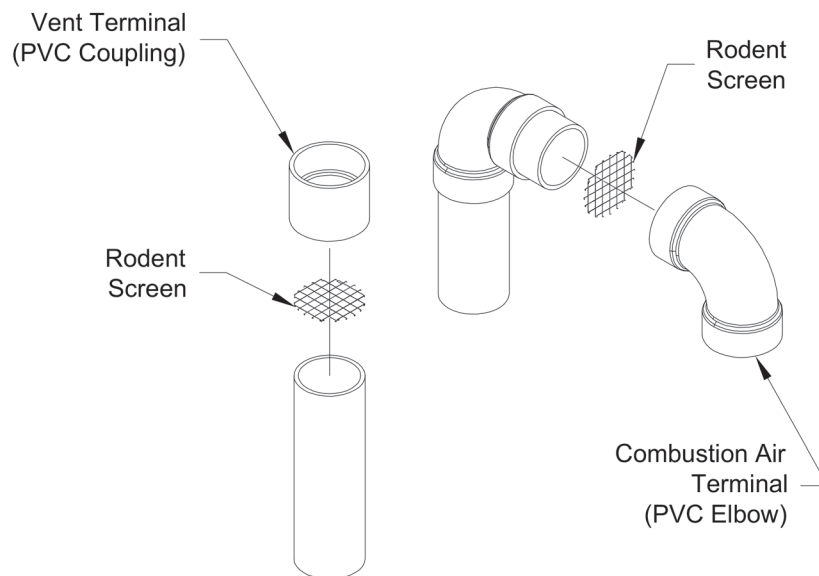

Figure 7.28: Installation of Standard Vertical Terminals
- a. See Figure 7.28 for the proper orientation of twin pipe vertical terminals.
- c. A 180° bend (or two 90° elbows) are installed on the top of the air intake pipe. If two 90° elbows are used, the rodent screen provided can be installed between them (Figure 7.28). If a 180° bend is used, install the rodent screen in the open side of the bend, using a ring made of PVC pipe. If desired, the termination fittings can be attached to the end of the vent and/or intake pipes with field supplied stainless steel screws so that they can be later removed for cleaning and inspection. If this is done, drill a clearance hole in these fittings and a tap hole in the end of the vent/intake pipes to accept these screws.